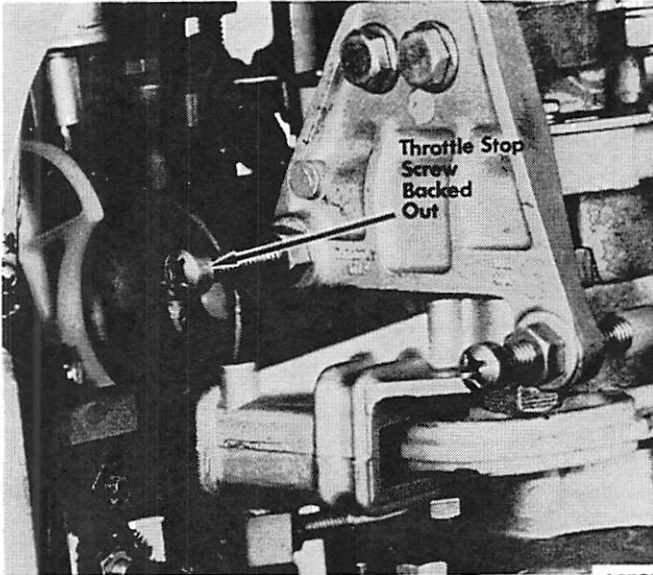

Figure 5. Throttle Stop Screw
- Back the throttle stop screw out all the way. (Figure 5)